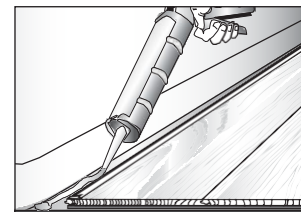

Figure 11
- All perimeter expansion zones must be completely filled with 100% silicone caulk following the manufacturer's recommendations. When applying caulk, it is helpful to first apply a strip of painter's tape (Scotch® Delicate Surface Painter's Tape 2080) parallel to and approximately 1/32" (.79 mm) from the edge of the laminate (Fig. 11). Then fill the expansion zone with caulk, remove the excess with a plastic scraper or putty knife and remove the tape.